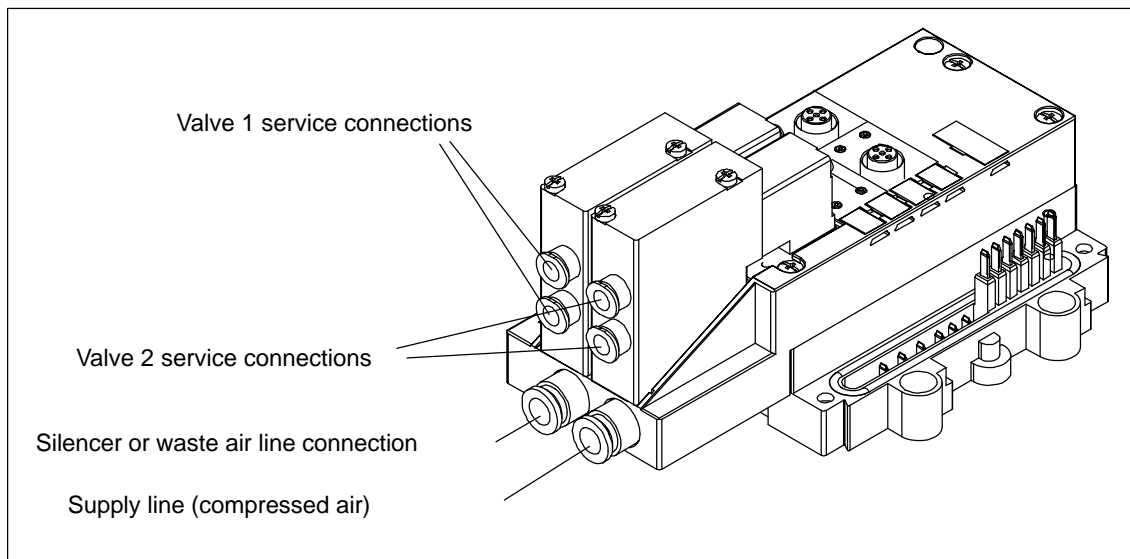

Figure 3-7 Supply and service lines on pneumatic module EM 148-P DI 4 x DC 24V/DO 2 x P
1. Use tubing exhibiting outside tolerance from FESTO for example, type PUN ... or type PAN .... Push the tubing having an outer diameter complying with Table 3-2 as far as the stop over the appropriate connection on the module (refer to Figure 3-7).
If you want to direct the waste air from the module into the environment, you can leave the waste air connection on the module open (refer to Figure 3-7). We recommend you to place a silencer on the waste air connection to reduce noise.